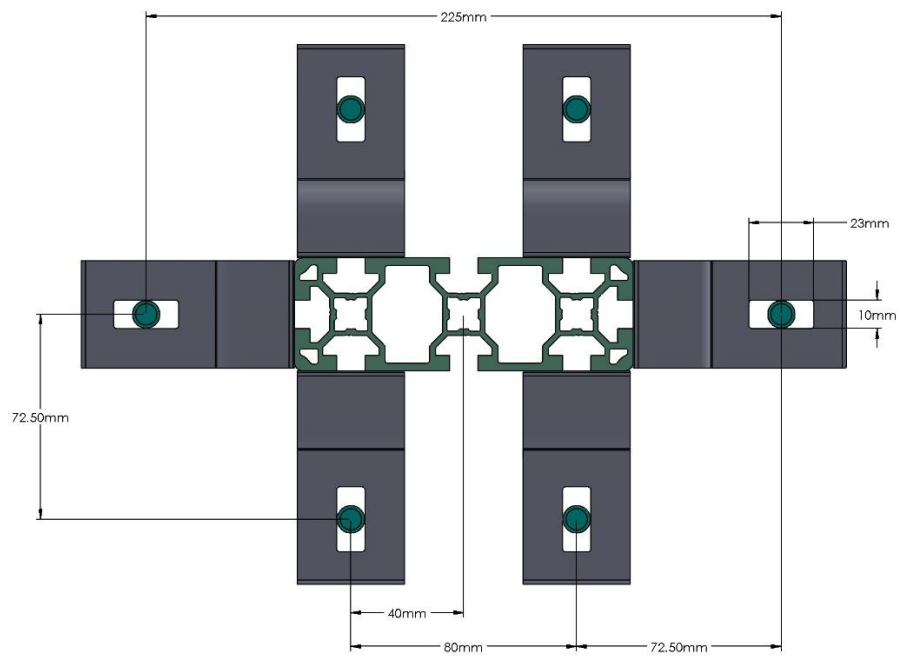

Figure 2-1 Mounting Bracket Screw Hole Locations
- 2.3.1** To begin the product assembly, install the supplied (4) Mounting Brackets to the base of the Pedestal Mount. Install the mounting brackets in the center location of each side (4 total) of the pedestal as show in Figure 2-1: